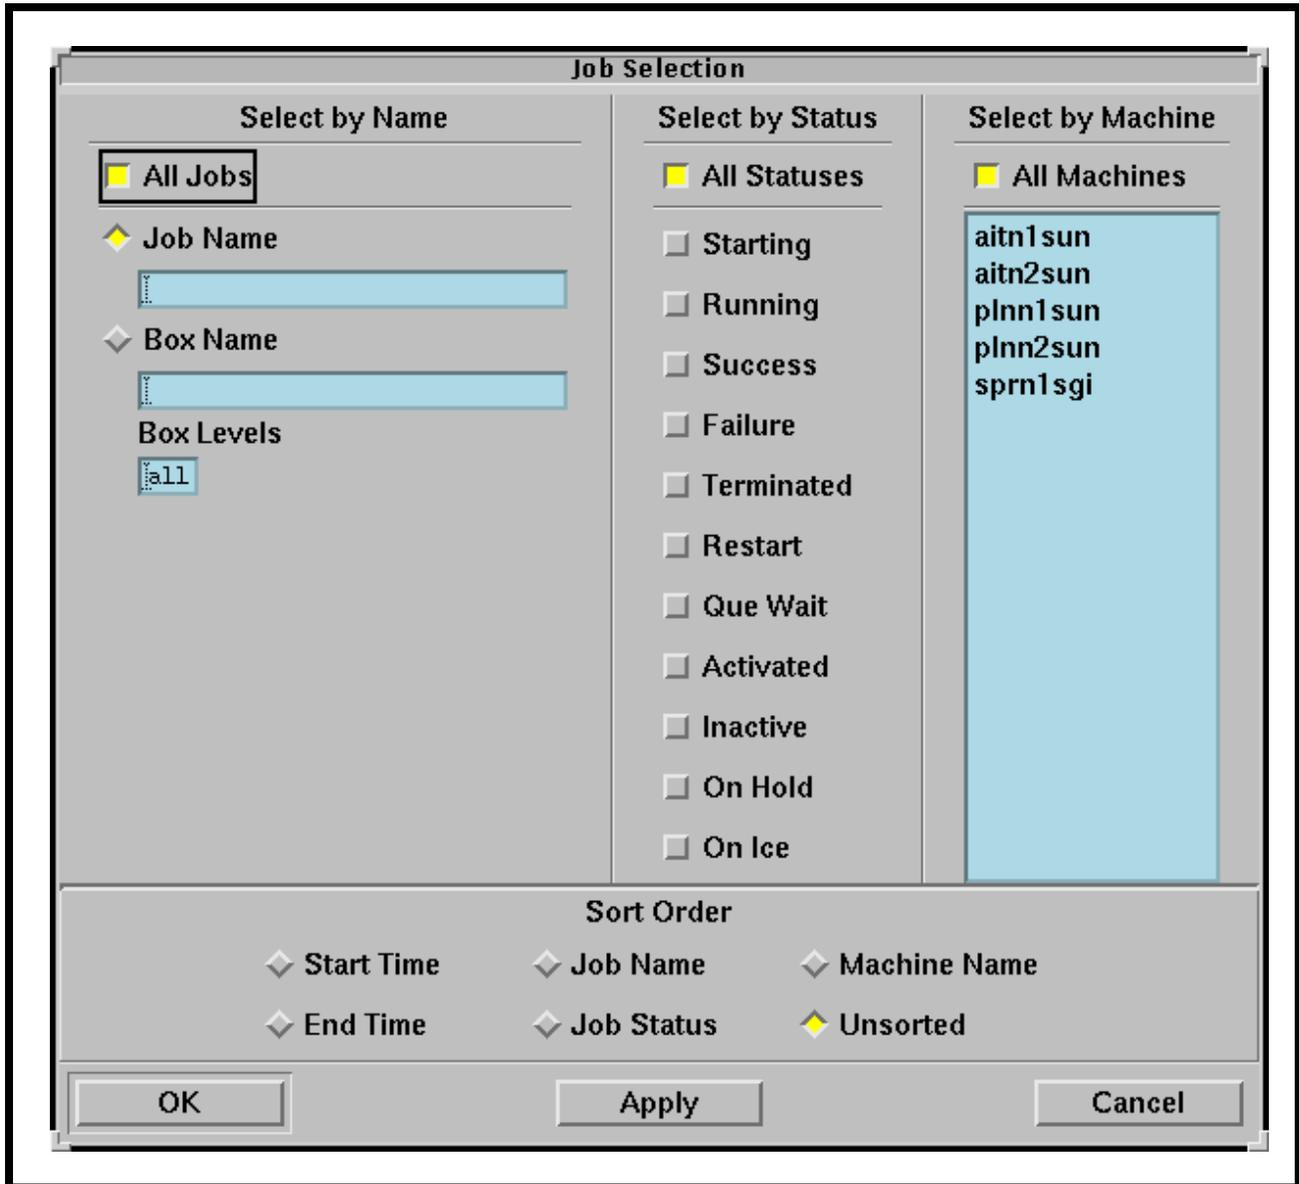

Figure 23. Job Selection GUI
- The **Job Selection** GUI (Figure 23) is displayed.